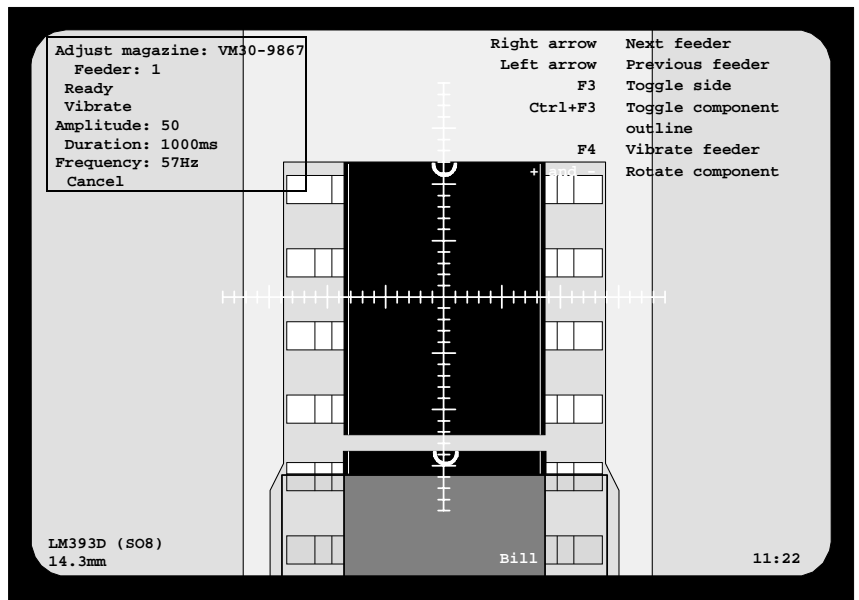

Figure 5-5. Component pick position
5. Center the cross hairs on the component in the pick position by using the trackball or joystick, see Figure 5-5. Figure 5-5 shows a vibratory magazine, but tape magazines are centered in the same way.